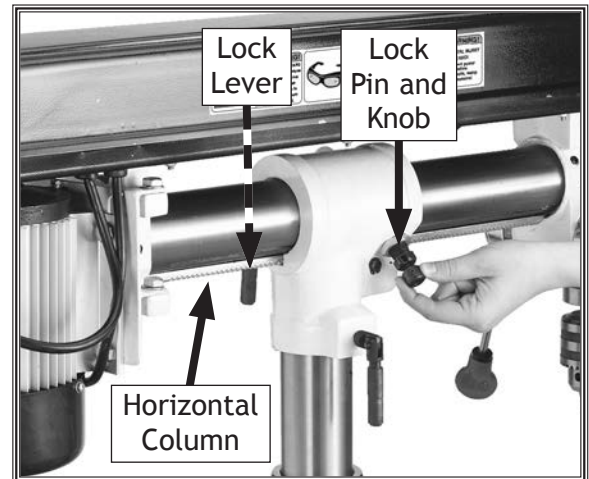

Figure 35. Headstock lock pin and knob and lock lever.
2. Pull out the lock pin located on the left side of the headstock and rotate the pin 90°, as shown in **Figure 35**.